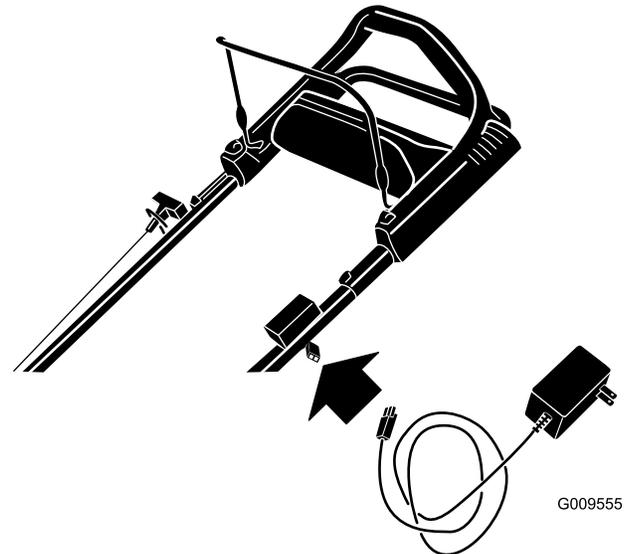

Figure 26
1. Connect the charger to the machine wiring harness located below the ignition key (Figure 26).